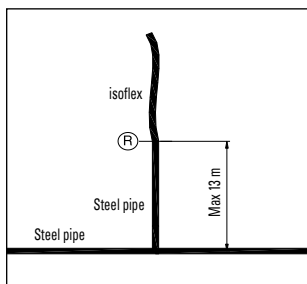

fig. 3
- The maximum distance from a fix point on the pipe run must not exceed the limit shown in fig. 3.